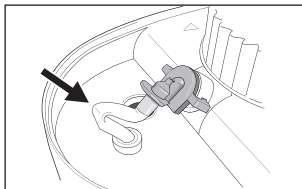

Fig. 3
3. Use the small spring to thread each of the two small holes in the steam nozzle to clear the holes, Fig. 3.